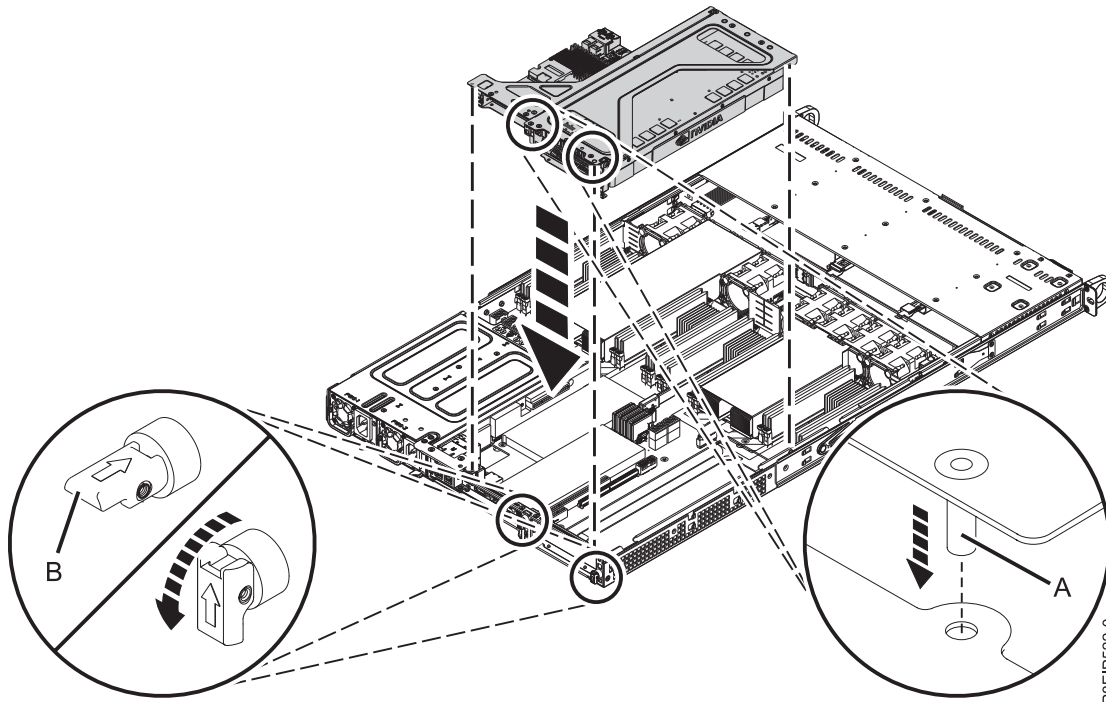

Figure 45. Replacing the PCIe riser
- d. Place the PCIe adapter riser and the cards it contains into the system backplane as shown in Figure 45 on page 40.